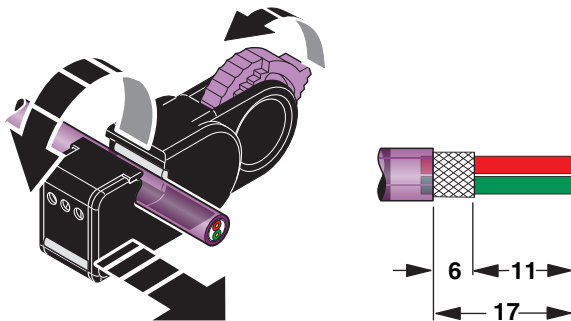

Figure 16 Stripping
To ensure reliable operation, observe the recommended stripping lengths according to Figure 16.
- Strip the cable as per the specified stripping lengths (see Figure 16).